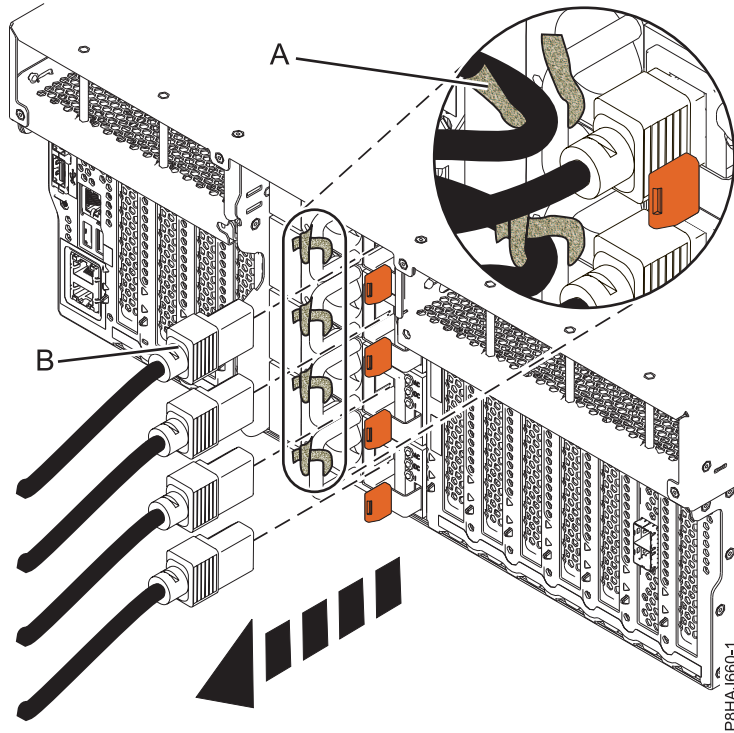
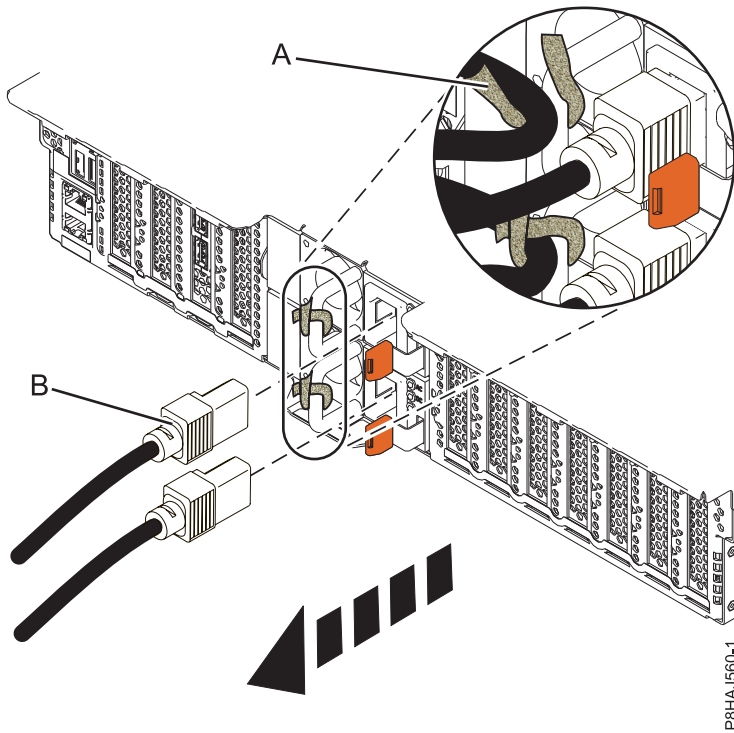
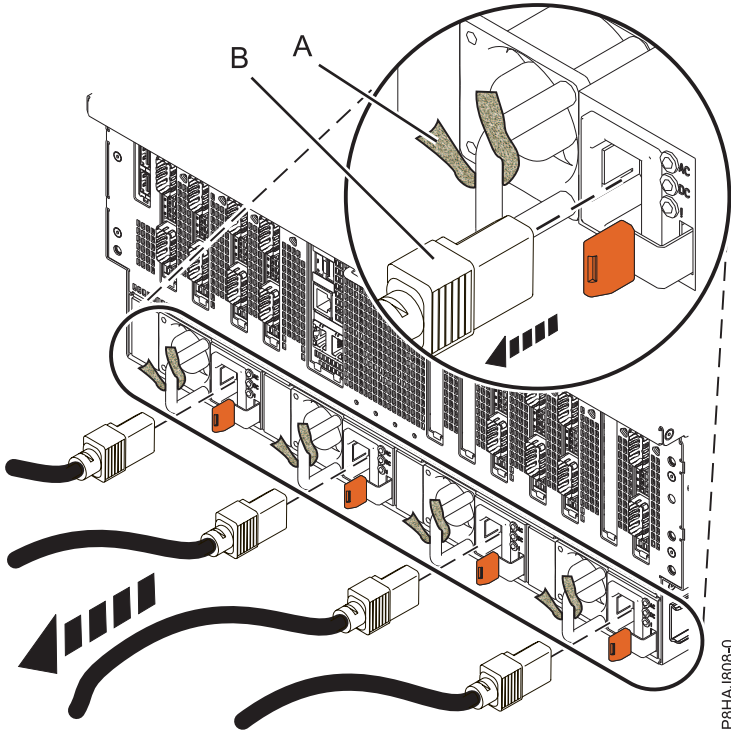

Figure 49. Removing the power cords from an 8247-42L, 8286-41A, or 8286-42A system
Figure 50. Removing the power cords from an 5148-21L, 5148-22L, 8247-21L, 8247-22L, 8284-21A, or 8284-22A system
Figure 51. Removing the power cords from an 8408-44E or 8408-E8E system
3. Disconnect the power cords (**B**) from the system unit. See Figure 49 on page 85, Figure 50 on page 85, or Figure 51 on page 86 or depending on the type of your system.